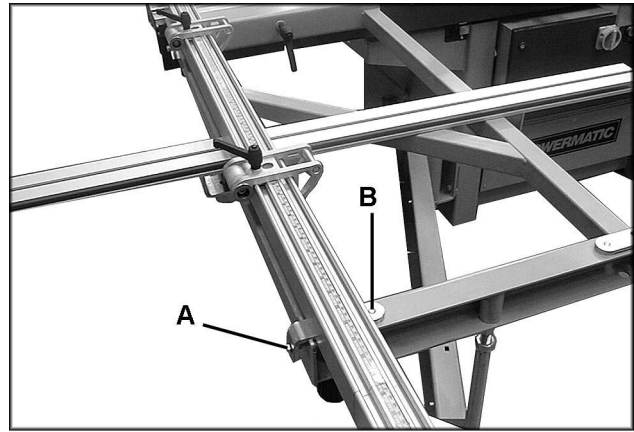

FIGURE 27
1. Loosen the two bolts (A-Fig. 27).
2. Turn bolt (B-Fig. 27) to open or close the angle of the fence in relation to the saw blade.
3. Re-tighten bolts (A-Fig. 27).